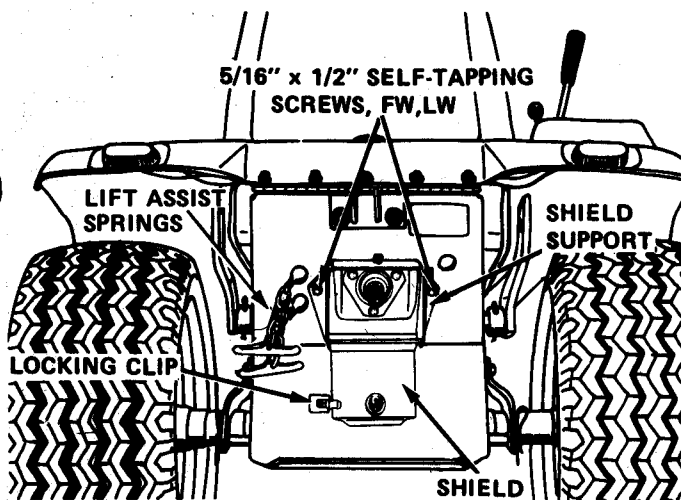

Figure 1
1. Lower the PTO shield and secure with the locking clip as shown in Figure 1.
lift assist springs and pull out to lock in the maximum assistance position. External lift assist springs in kit No. 731017 are recommended for the tiller in addition to the standard internal springs supplied. See Figure 1.